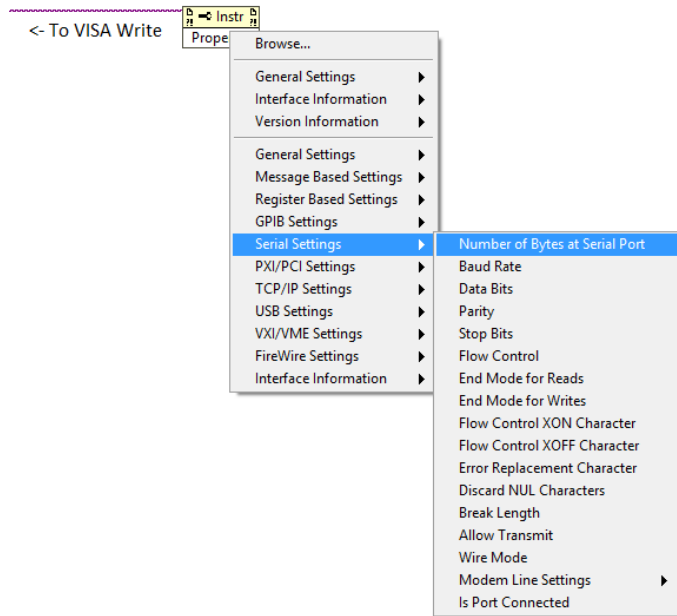

Figure 13 The Number of Bytes at Serial Port property required by the VISA Read function is accessed through the Property Node menu as shown.
- Connect a wire to the tunnel on the right of the Flat Sequence Structure to access the *VISA resource name out* refnum and wire it to the *VISA Property Node*. Left click on the white box at the bottom of the property node. Choose the *Number of Bytes at Serial Port* property, as shown in Figure 13.